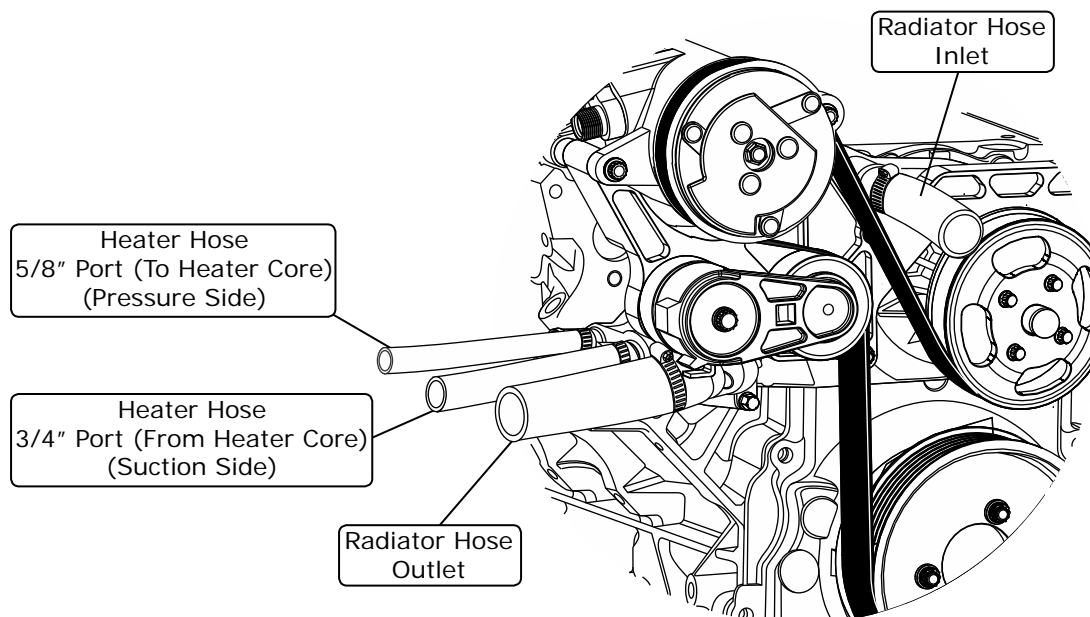

Figure 14
1. Install the (2) heater hoses onto the water pump. **NOTE: The hose clamp location and position should be as shown in Figure 14, below.**
2. Install the (2) radiator hoses onto the water pump. **NOTE: The hose clamp location and position should be as shown in Figure 14, below.**